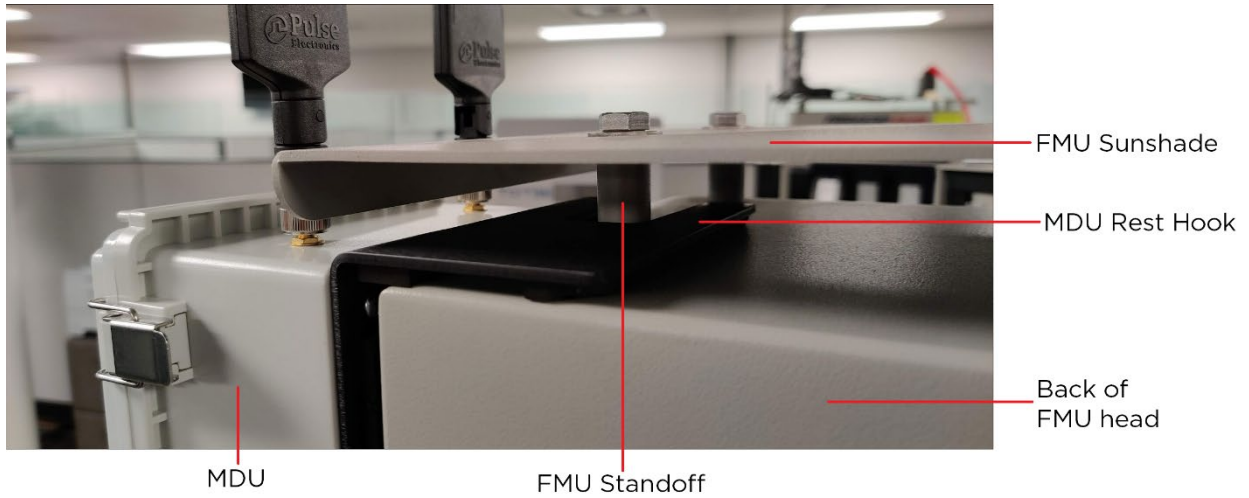

Figure 3 Attaching the MDU
- Slide the MDU onto the right side of the FMU such that the notch on top of the backplate slides between the head and the sunshade, looping around one of the standoffs, resulting in the MDU hanging to the side of the FMU (Figure 3).